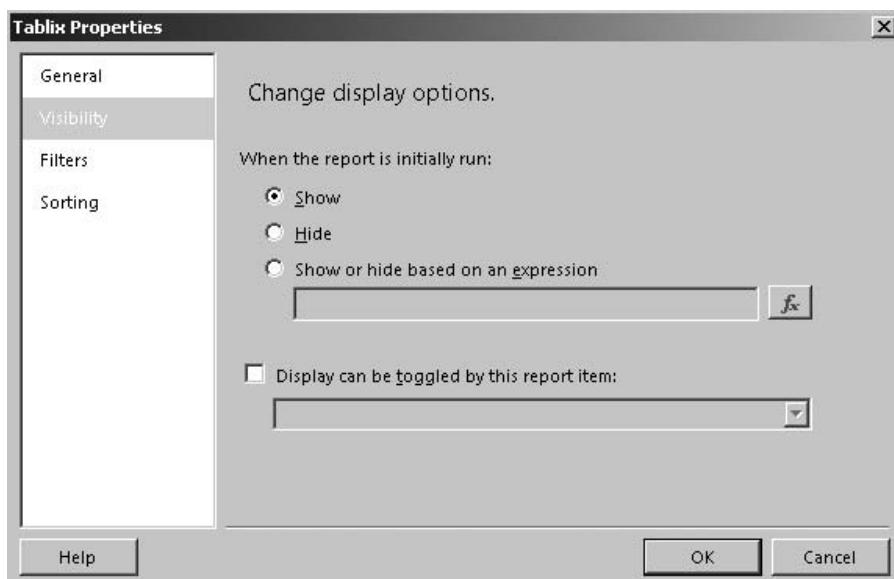

Figure 16-17 The Visibility page of the Tablix Properties dialog box
51. Select the Visibility page. This is shown in Figure 16-17. The Visibility page controls whether a report item is seen or is hidden. We explore the workings of the Visibility page more in a moment.